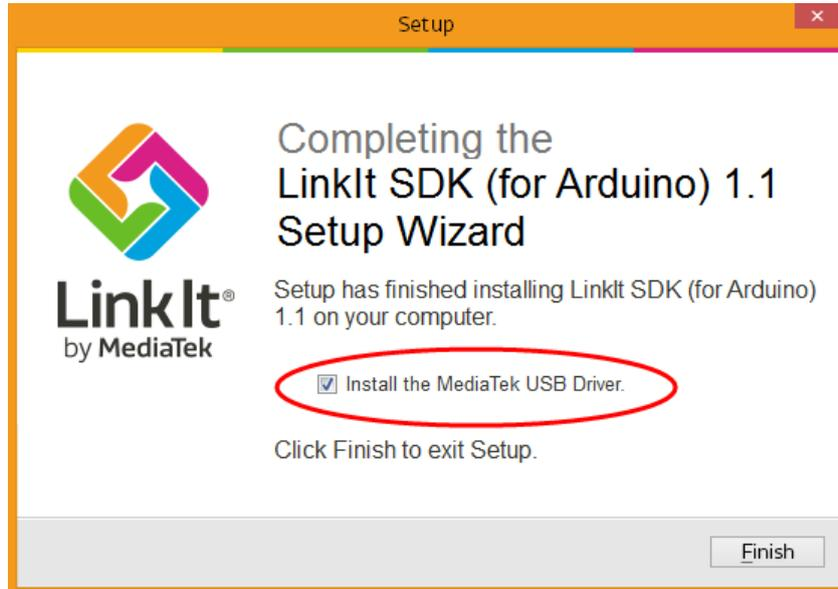

Figure 6 The option to install the MediaTek USB driver should be selected before clicking Finish
- 6) The SDK installs and on completion the dialog shown in Figure 6 displays. The first time you install the SDK, ensure that **Install the MediaTek USB Driver** is selected, before clicking **Finish**.